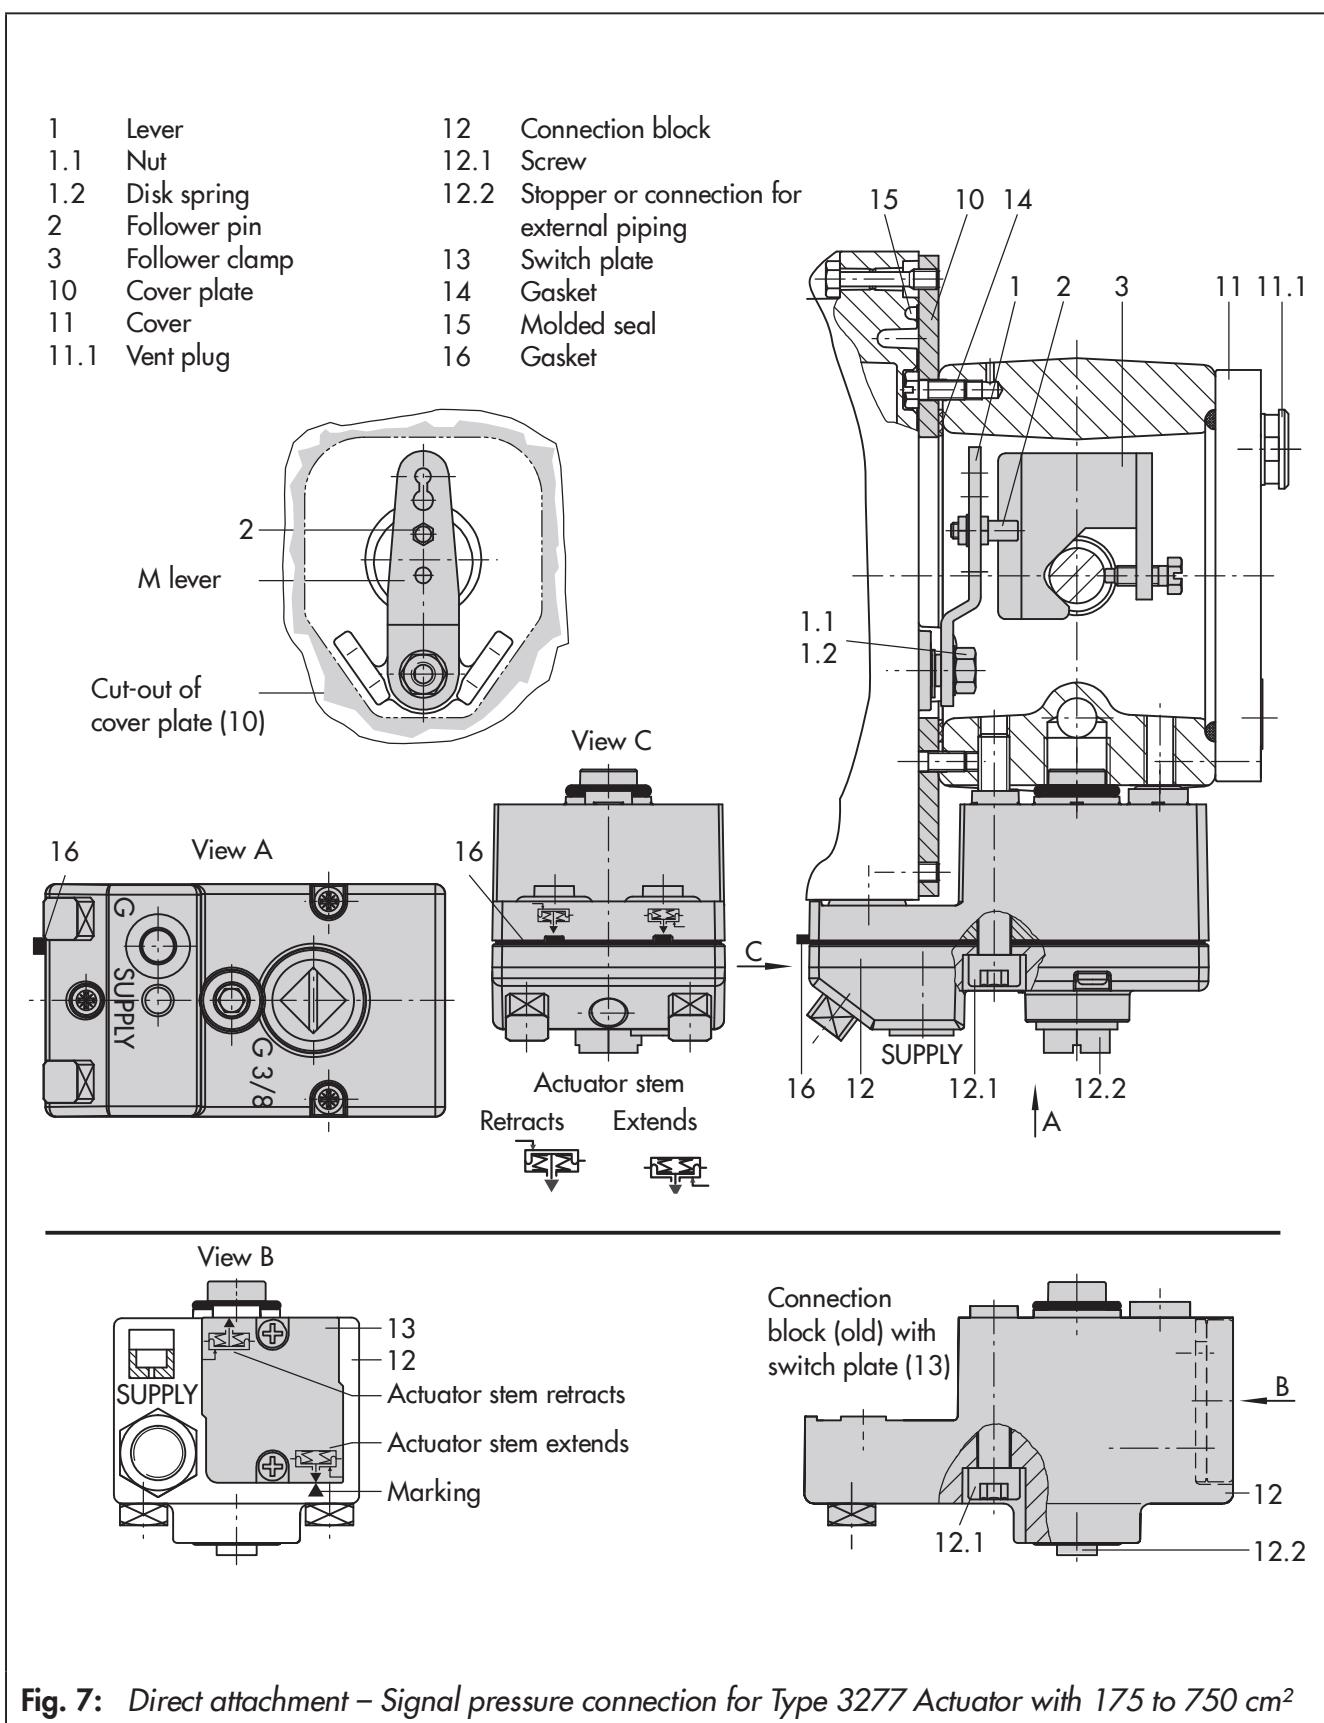

Fig. 7: Direct attachment – Signal pressure connection for Type 3277 Actuator with 175 to 750 cm2
#### Actuators with 175 to 750 cm2 effective areas (see Fig. 7)
1. Place follower clamp (3) on the actuator stem, align it and screw tight so that the mounting screw is located in the groove of the actuator stem.
2. Mount cover plate (10) with narrow side of the cut-out (Fig. 7, on the left) pointing towards the signal pressure connection. Make sure that the gasket (14) points towards the actuator yoke.
3. For actuators with 355, 700 or 750 cm2, remove the follower pin (2) on the M lever (1) on the back of the positioner from pin position **35**, reposition it in the hole for pin position **50** and screw tight. For actuators 175, 240 and 350 cm2 with 15 mm travel, keep the follower pin (2) in pin position **35**.
4. Insert molded seal (15) into the groove of the positioner housing.
5. Place positioner on the cover plate in such a manner that the follower pin (2) rests on the top of the follower clamp (3). Adjust the lever (1) correspondingly and open the positioner cover to hold the positioner shaft in position at the cap or rotary pushbutton. The lever (1) must rest on the follower clamp with spring force. Fasten the positioner on the cover plate (10) using the two fastening screws.
6. Make sure that the tip of the gasket (16) projecting from the side of the connection block is positioned to match the actuator symbol for the actuator's fail-safe action "actuator stem extends" or "actuator stem retracts". If this is not the case, unscrew the three fastening screws and lift off the cover. Turn the gasket (16) by 180° and re-insert it.
The old connection block version (Fig. 7, bottom) requires the switch plate (13) to be turned to align the actuator symbol with the arrow marking.
7. Place the connection block (12) with the associated seals against the positioner and the actuator yoke and fasten using the screw (12.1). For actuators with fail-safe action "actuator stem retracts", additionally remove the stopper (12.2) and mount the external signal pressure pipe.
8. Mount cover (11) on the other side. Make sure that the vent plug is located at the bottom when the control valve is installed to allow any condensed water that collects to drain off.